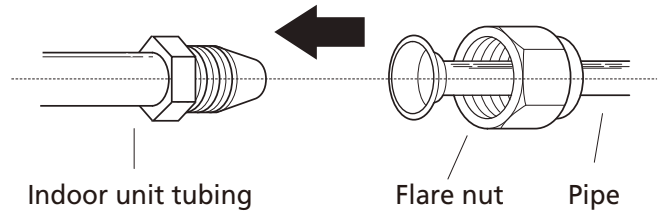

Fig. 6.7
- Align the center of the two pipes that you will connect. See **Fig. 6.7**.